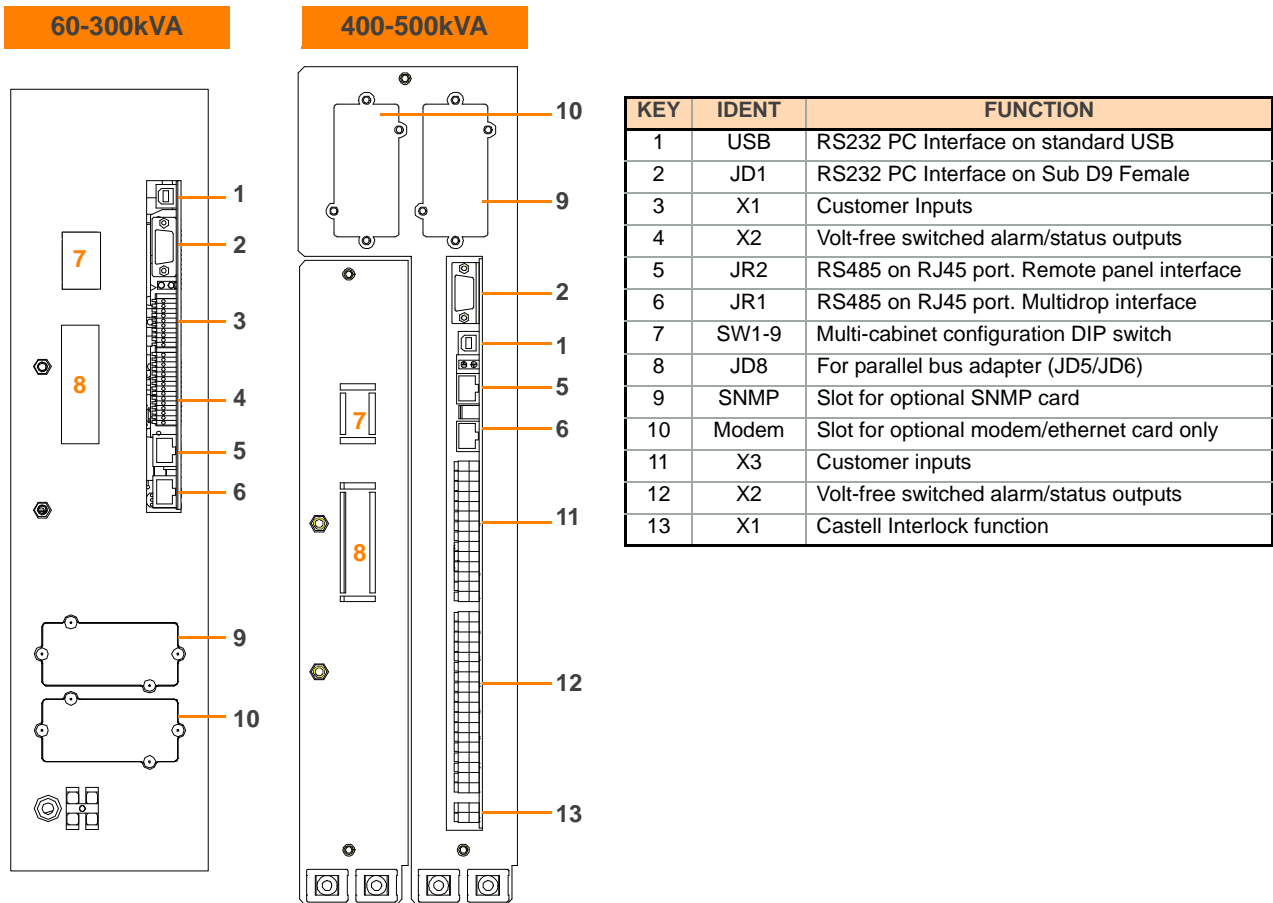

Figure 3.13 UPS Communications interface board connectors
2. Fit a parallel adaptor board over connector JD8 on the communications interface board in all UPS cabinets (JD8 is identified in Figure 3.13). The parallel adapter board contains a DIP switch (SW2-2) and two ribbon connectors, JD5 & JD6.
DIP Switch SW1-9 on the UPS communications interface board (See Figure 3.13) must be set to indicate the position of the cabinet in the parallel chain. The three options are: